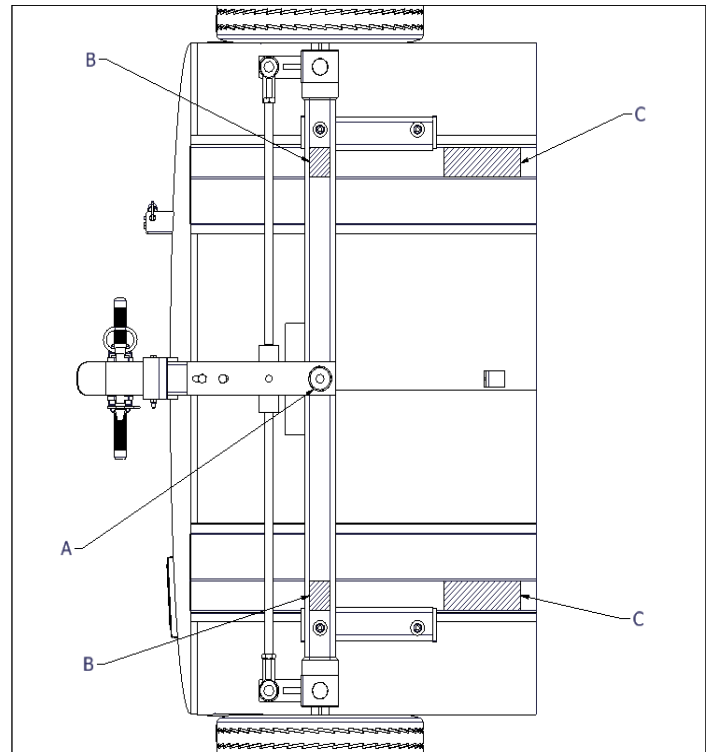

Figure 5-2. Generic Undercarriage Lift Points
- Raise equipment with suitable maintenance jack (See Figure 5-2, reference arrow A for jack placement) high enough to remove wheel assembly.
- Place approved jack stands under front axle (see Figure 5-2, reference arrow B for stand placement).
- a. Raise equipment with suitable maintenance jack (see Figure 5-2, reference arrow A for jack placement) to allow for 4-inches of space between the wheels and the ground.
- b. Place cribbing under tank skids (see Figure 5-2, reference points C) to safely support the equipment.
- d. Place tow bar (1) in the up position.
- f. Remove bolts (2) and nuts (3).
- g. Carefully lower jack and assembly until wheels are on the ground and front axle tube clears tank mounts (4).
- h. Pull Front Undercarriage forward. Note location of rubber mounting pads (5).
Figure 5-2 is generic for both the Front Undercarriage and Rear Undercarriage. Points A and B are similar on both axles.
- a. Raise equipment with suitable maintenance jack (See Figure 5-2, reference arrow A for jack placement) high enough to remove wheel assembly.
- b. Place approved jack stands under rear axle (See Figure 5-2, reference arrow B for stand placement).